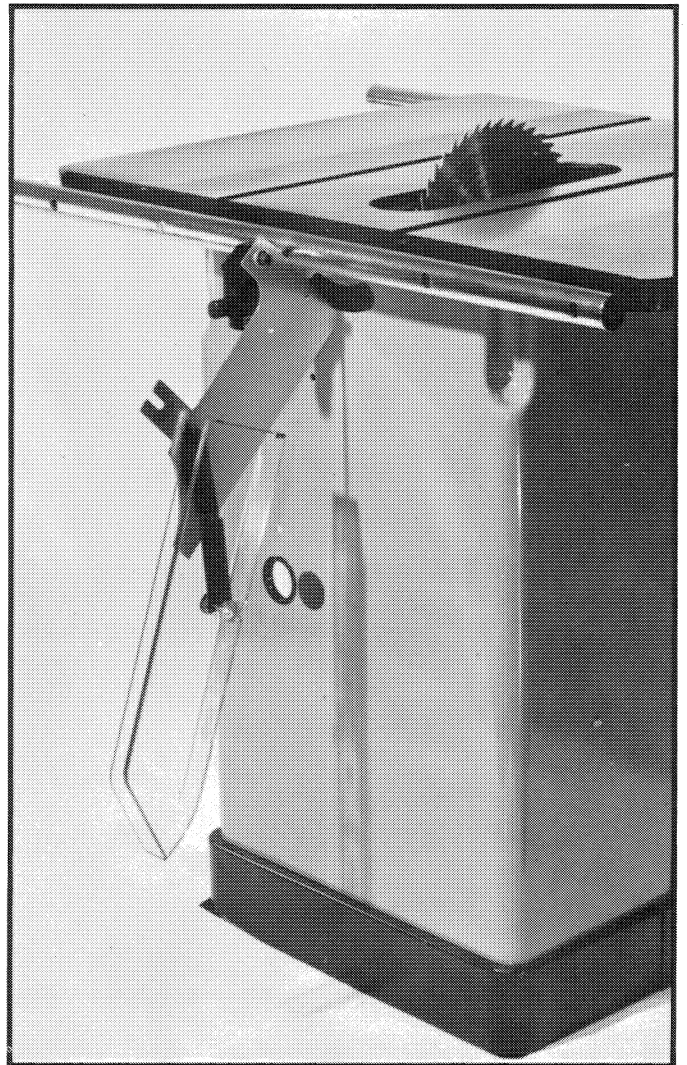

Fig. 19
16. **IMPORTANT:** FOR CERTAIN CUTTING OPERATIONS SUCH AS DADOING AND MOULDING, WHERE YOU ARE NOT CUTTING COMPLETELY THROUGH THE WORKPIECE, THE BLADE GUARD AND SPLITTER ASSEMBLY CANNOT BE USED. SIMPLY LOOSEN SCREW (B), AND SCREW (R) FIG. 18. THEN LIFT UP AND SWING THE BLADE GUARD AND SPLITTER ASSEMBLY TO THE REAR OF THE SAW, AS SHOWN IN FIG. 19. CAUTION: ALWAYS RETURN THE BLADE GUARD AND SPLITTER ASSEMBLY TO ITS PROPER OPERATING POSITION FOR NORMAL THRU-SAWING OPERATIONS.